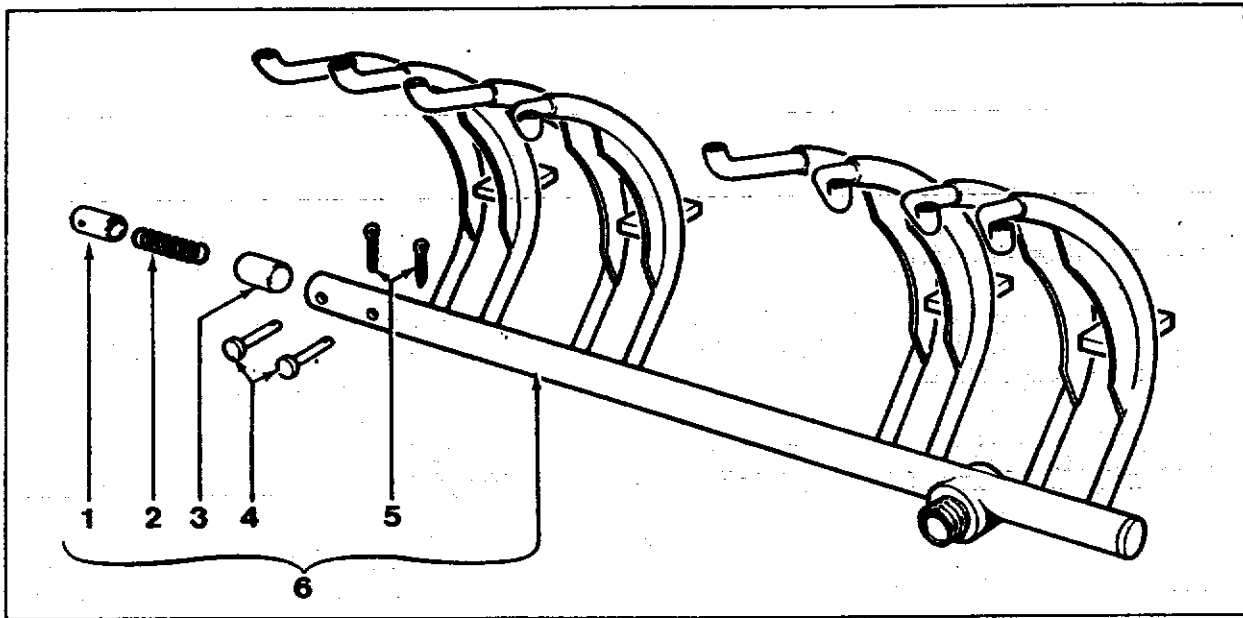

Fig. 28 Piston Oil Cooling Rail
3. Remove sump, disconnect suction pipe, unscrew the 'U' bolt nuts also the oil pipe securing nuts and remove the oil rail. (Fig. 28).
4. To inspect the oil pressure relief valve, remove the end split pin and withdraw the relief valve seat, spring and plunger. (Fig. 28).